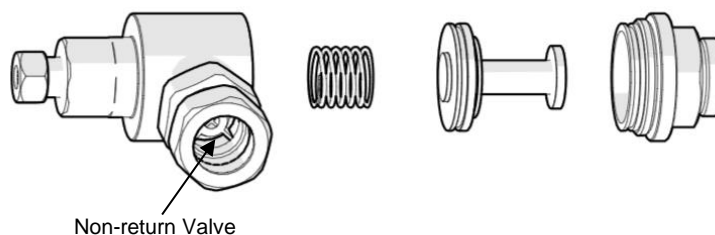

Figure 13
- e. Disassemble pilot valve assembly as shown in Figure 13. Inspect and check non-return valve located in pilot valve assembly.